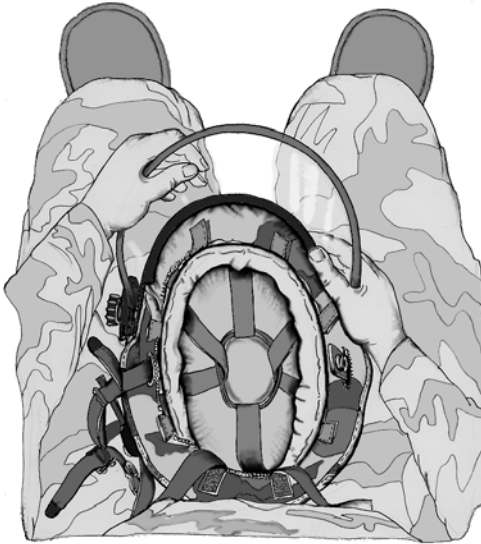

Figure 5. Helmet Assembly – continued.
4. With the face shield assembly upside down and in the deployed position (down), hook the black plastic gutter over the front lip of the helmet, then position the web strap around the helmet, with the adjusting buckle all the way to one side. See Figure 5, above.